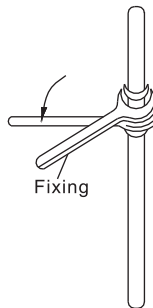

Fig 15
■ When connecting flared connectors, the two pipes must be aligned with the same center. Then put on the nut and revolve it in and then tighten it with two spanners, see Fig 15.